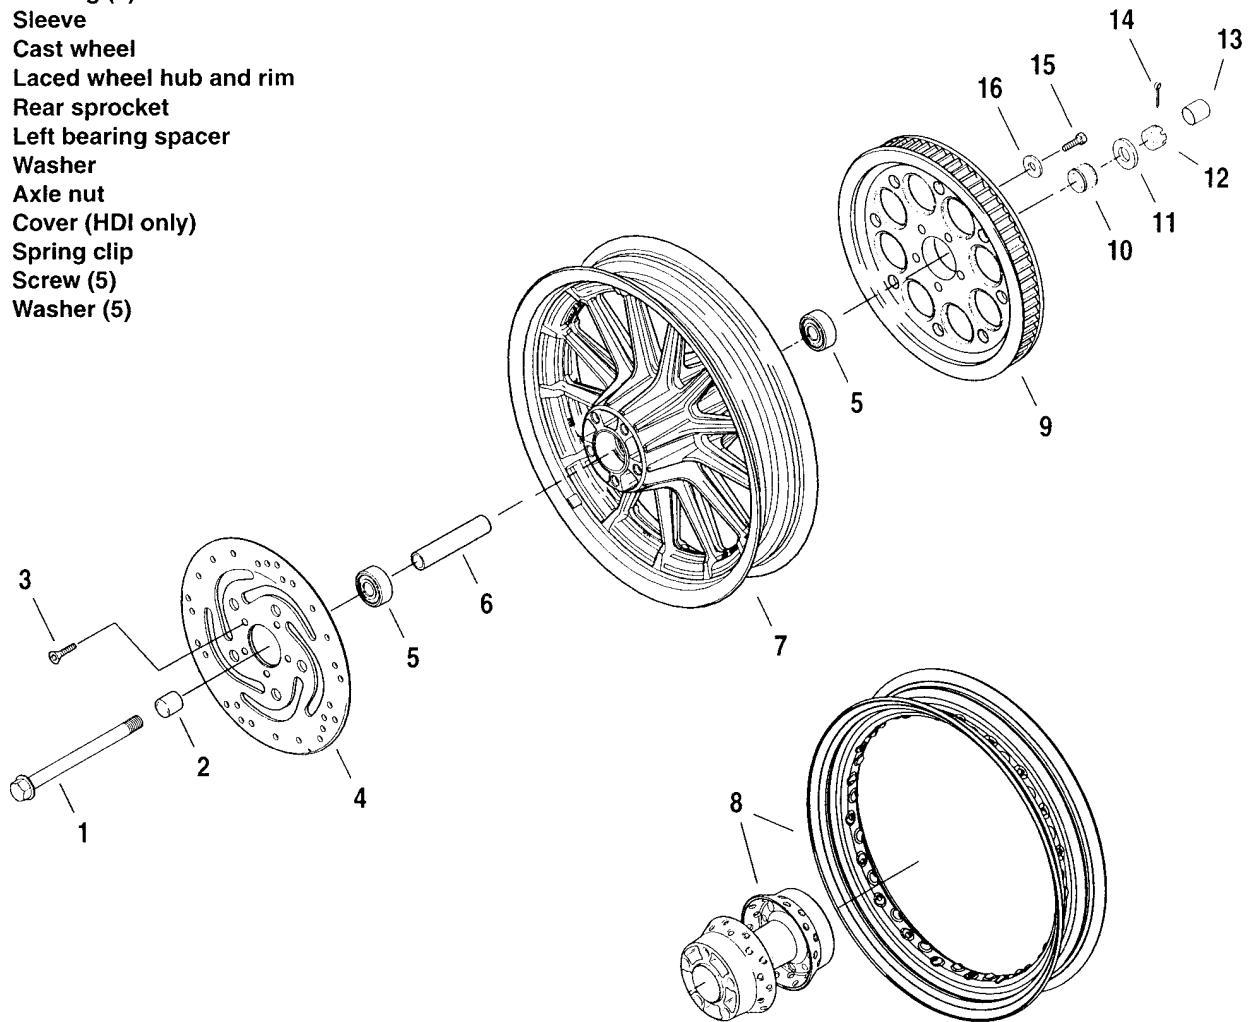

Figure 2-12. Rear Wheel/Hub
1. See Figure 2-12. Remove spacers (2, 10) from left and right sides.
- a. On left side of wheel, remove five screws (15) and washers (16) to detach rear sprocket (9).
- b. On right side of wheel, remove five screws (3) to remove rear brake disc (4).
2. See Figure 2-12. Install brake disc (4) on valve stem side of wheel if removed.
- a. Apply a drop of LOCTITE THREADLOCKER 243 (blue) to the five screws (3).
3. Install belt sprocket (9) if removed.
- a. Apply two drops of LOCTITE THREADLOCKER 262 (red) to the five screws (15). Install sprocket using screws (15) and washers (16).